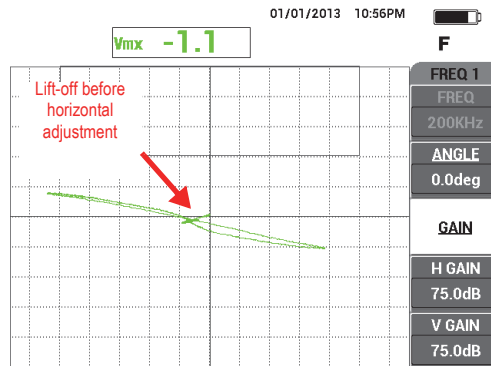

Figure 5-56 Scanning the center notch
5. Scan the center notch only, and then press the FREEZE key () [see Figure 5-56 on page 168].